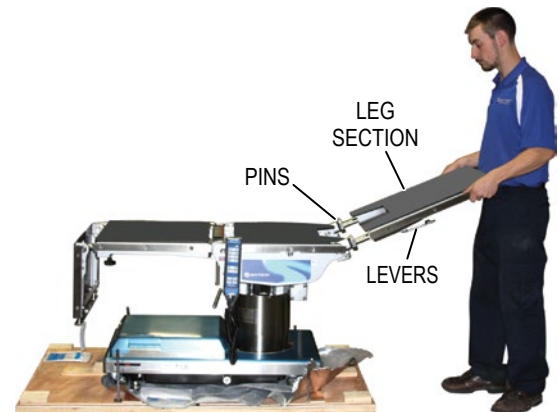

Figure 7. Installing Leg Section Assembly
17. Install the leg section onto the leg attachment pins until it fully engages. Pull out the leg section after installation to make sure the release levers are completely locked (Figure 7).